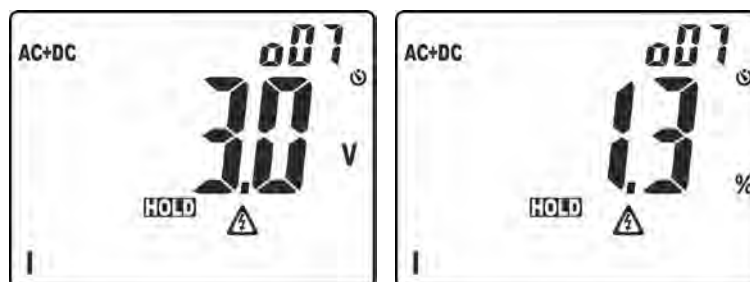

Fig. 4: Display of ordering of amplitude of harmonic analysis
- Long pressing of the key (at least 2s) in order to activate the **H₂O** (**H**igher **H**armonic **O**rdering) ordering function of the amplitude of harmonics. In these conditions, function "HOLD" is automatically activated and symbol "o" appears next to the displayed harmonic order to indicate that the Ordering function is activated. The bargraph is disabled and the instrument shows the value of amplitude of all the harmonics between the DC value and the 25th, fundamental harmonic excluded, in a **decreasing order** starting from the harmonic with the highest amplitude, as shown in Fig. 4
In the example in Fig. 4, the harmonic with the highest value corresponds to the 7th. Press key $\blacktriangle$ to observe the amplitude of the remaining harmonics and press key **H/H%/H $\bar{\square}$** again to switch between display in absolute and percentage values. Turn the rotary switch to exit the function.